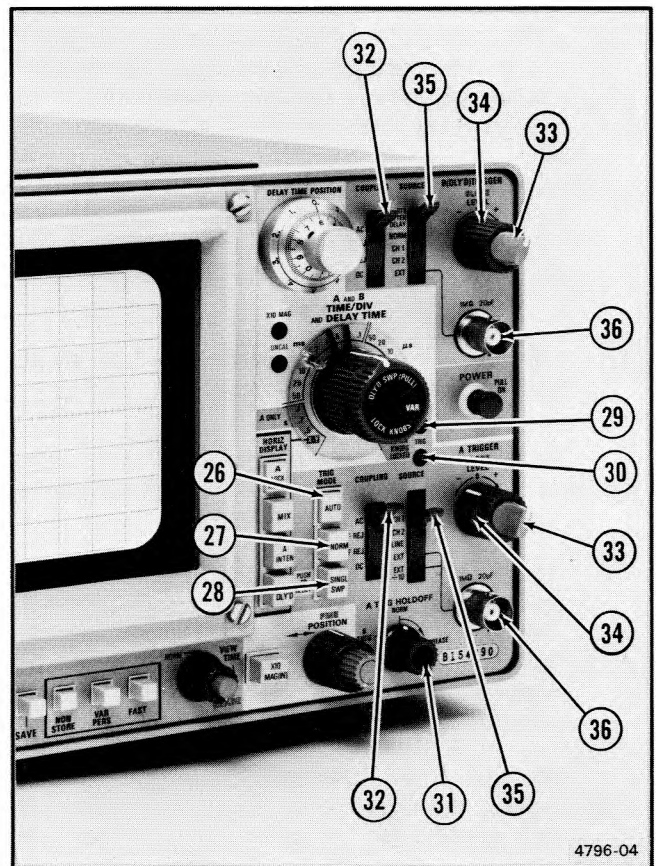

Fig. 2-4. Partial Trigger section.
Refer to Fig. 2-4 for location of items 26 through 36.